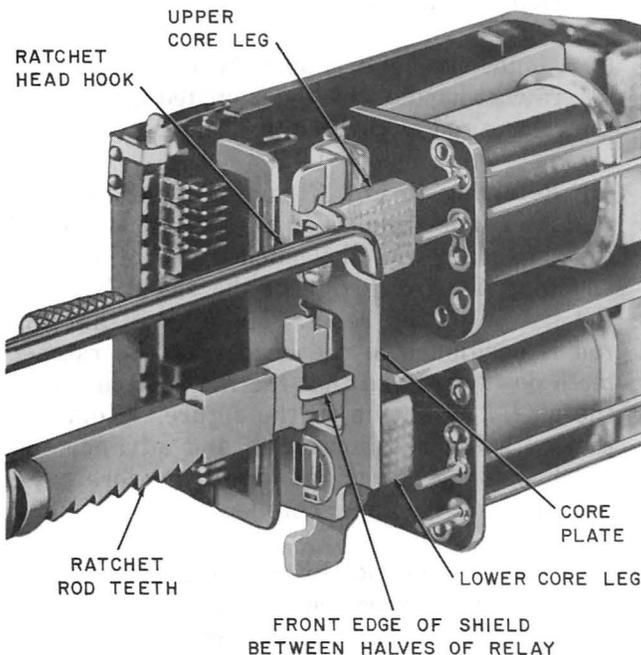

Fig. 31—Removing Core Plate
- (d) Referring to Fig. 31, position the hook of the ratchet head over the top right edge of the core plate with the notched end of the rod engaging the front edge of the shield between the halves of the relay. Make sure that the rod is positioned in the head with the ratchet teeth downward and that the rod is in line with the shield as shown in the figure. Hold the tool with the rod horizontal and advance the rod by pulling the trigger until the core plate is freed from the upper core leg.